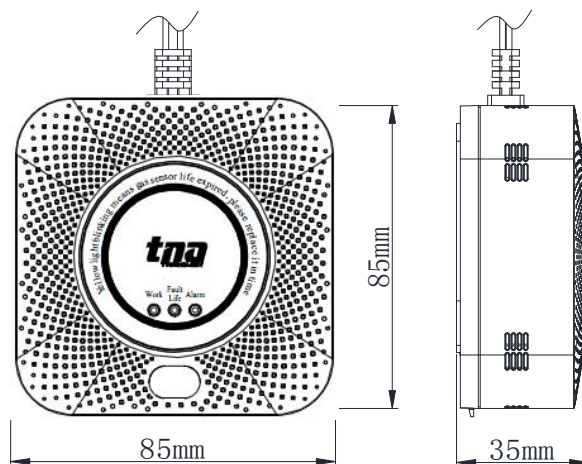

Fig. 1 JT-TR3106AE outline dimension diagram
1. Detector outline dimension and installation dimension diagram as shown in Fig.1 and 2.